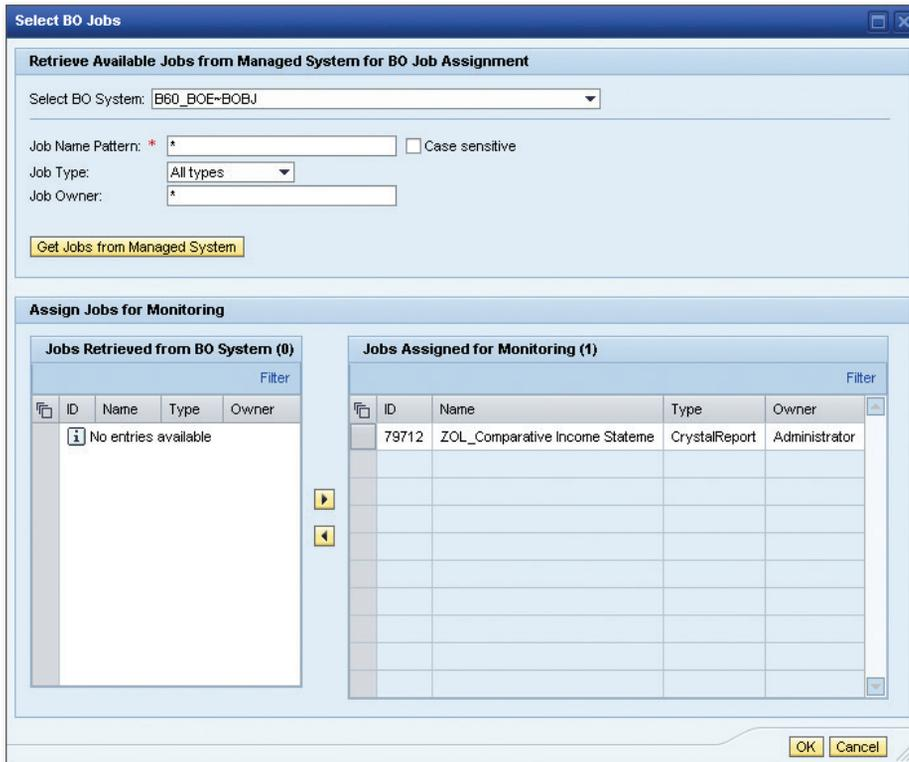

Figure 6.9 Selecting SAP BusinessObjects Jobs
2. In the window displayed, search for the job you want to monitor (see Figure 6.9).
3. You can then choose GET JOBS FROM MANAGED SYSTEM to integrate the SAP BusinessObjects jobs into monitoring (see Figure 6.9).